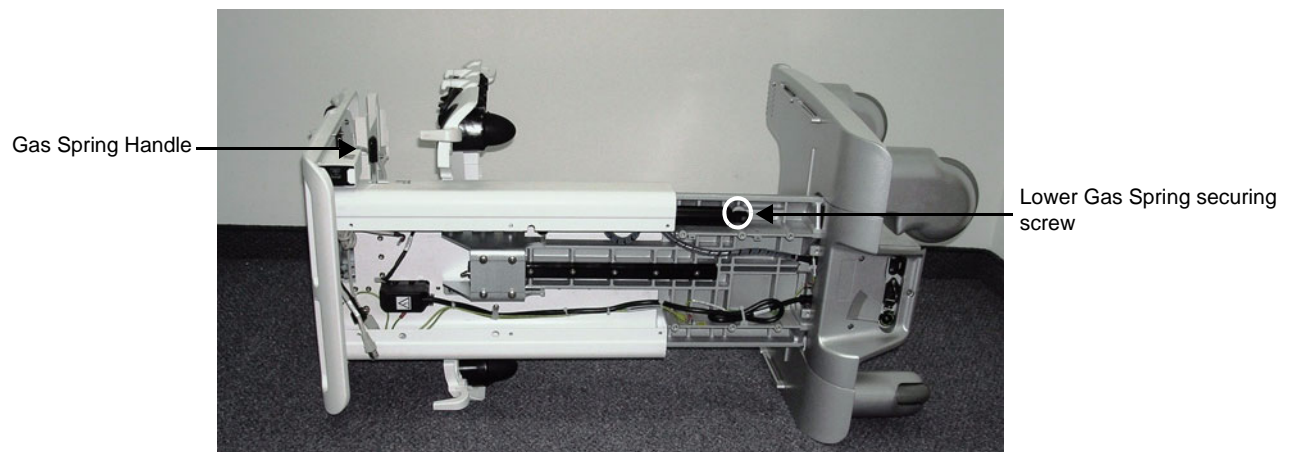

Figure 8-94 SafeLock Cart shown with Gas Spring Handle Uppermost
- 1) Return the replacement USB board to its position on the SafeLock Cart chassis and secure it with the upper and lower bolts previously removed - see Figure 8-94.